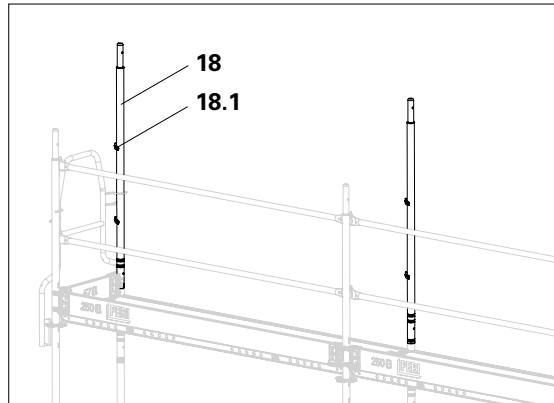

Fig. A3.12
1. Turn tube EVR 150 (**18**) so that the guardrail hooks (**18.1**) point inwards. (Fig. A3.12 + A3.12a)